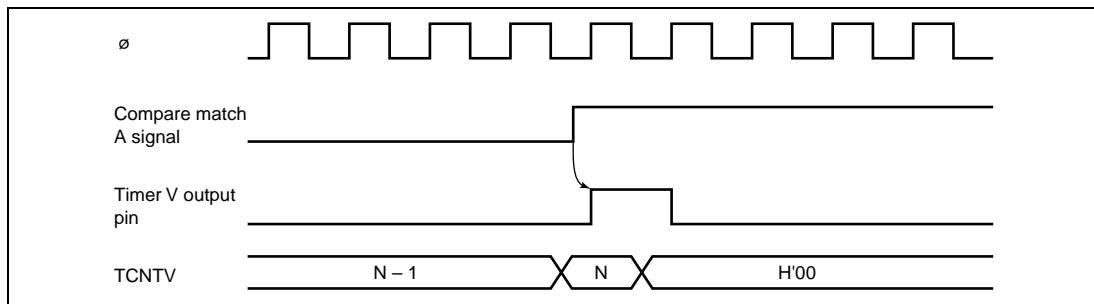

Figure 11.8 Clear Timing by TMRIV Input
6. When CCLR1 or CCLR0 in TCRV0 is 11, TCNTV can be cleared by the rising edge of the input of TMRIV pin. A TMRIV input pulse-width of at least 1.5 system clocks is necessary. Figure 11.8 shows the timing.